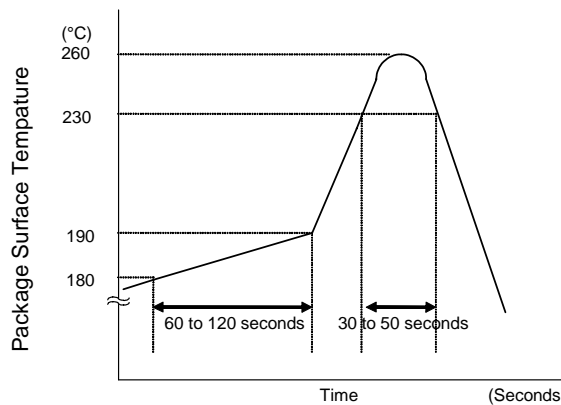

Figure 3.4 Example of Temperature Profile
- (2) Complete the infrared ray reflow process with a maximum package surface temperature of 260°C, within 30 to 50 seconds when a package surface temperature is 230°C or higher.
- (3) Refer to Figure 3.4 for an example of a temperature profile.
- (1) Complete hot air reflow with a maximum package surface temperature of 260°C, within 30 to 50 seconds when a package surface temperature is 230°C or higher.
- (2) For an example of a temperature profile, refer to Figure 3.4 in Section 3.5.3.2 (3) above.